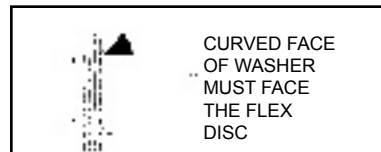

FIGURE 2
4) Assemble flex discs, coupling bolts and nuts and element washers to each hub before moving the equipment into position. The curved face of the element washer should face the flex disc as shown in Figure 2.